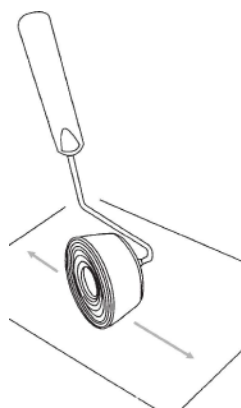

Fig.8
6. Charge the Edger Head by rolling it on an old newspaper for 2 minutes or until the fully covered with paint (Fig.8).